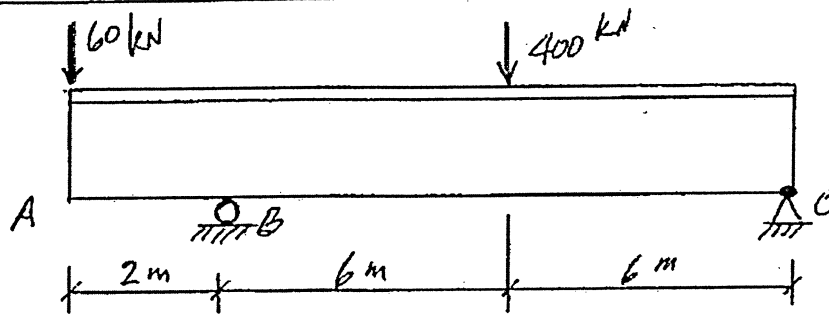

FIGURE 2
2. The loaded structure shown in Figure 2 is to be constructed as a post-tensioned prestressed concrete girder. Design a T-section, allowing no tension in the cross-section, and calculate the area and profile of the post-tensioned steel strands.